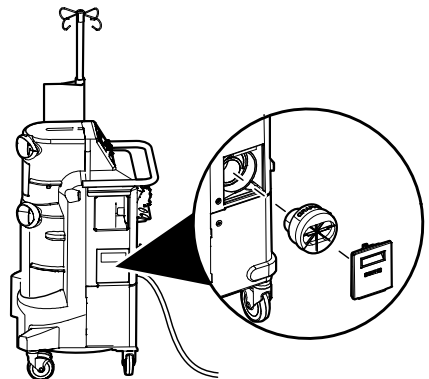

Figure 2 – To Remove and Install Filter
2. Remove the door from the filter compartment (Figure 2).
5. Install the new filter into the filter compartment and replace the door (Figure 2).